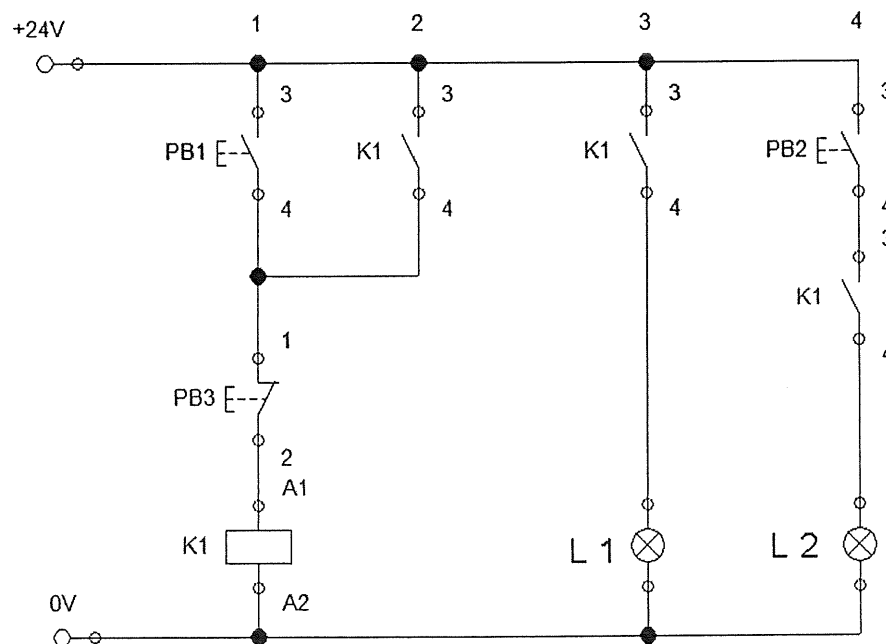

Figure 1
- b) Automation arises through three (3) levels. Describe these levels. (6 marks)
- d) Figure 1 shows a circuit used to control lamp 1 and lamp 2. In sequence, describing what happens during each of the conditions below: